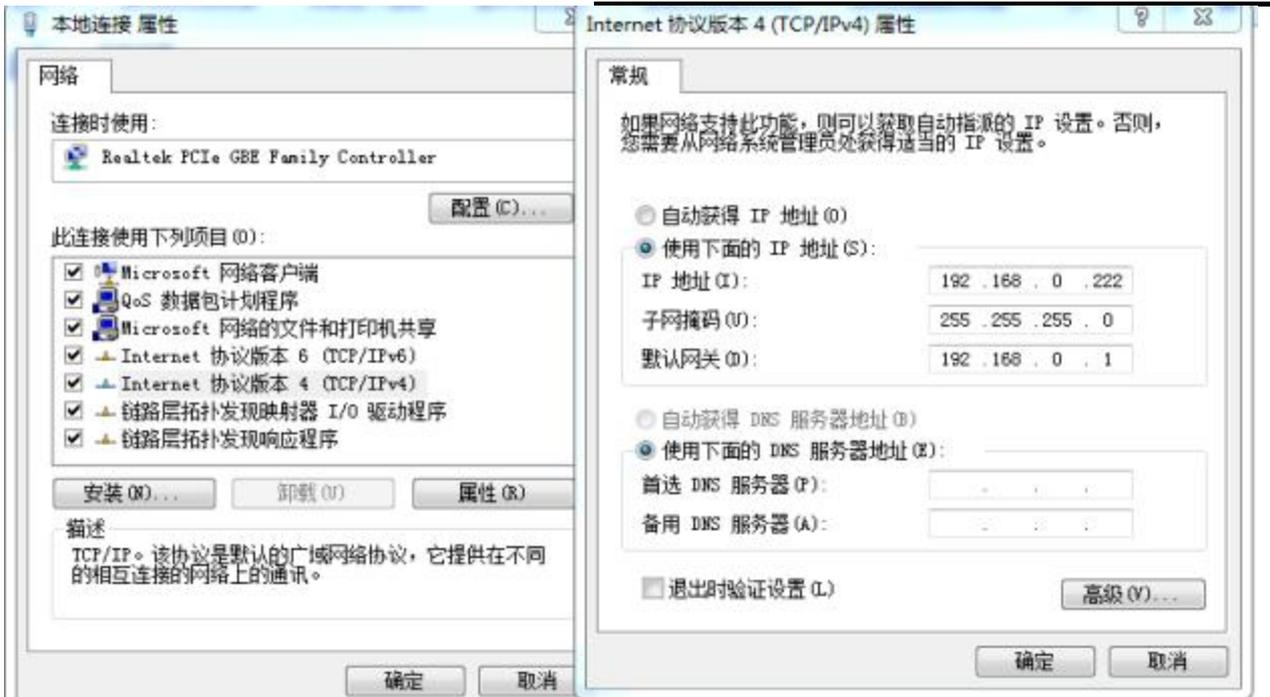

Figure 9 IP settings on the PC terminal
Step 6: Click "OK" to confirm the setting and exit. See Figure 9 for details.